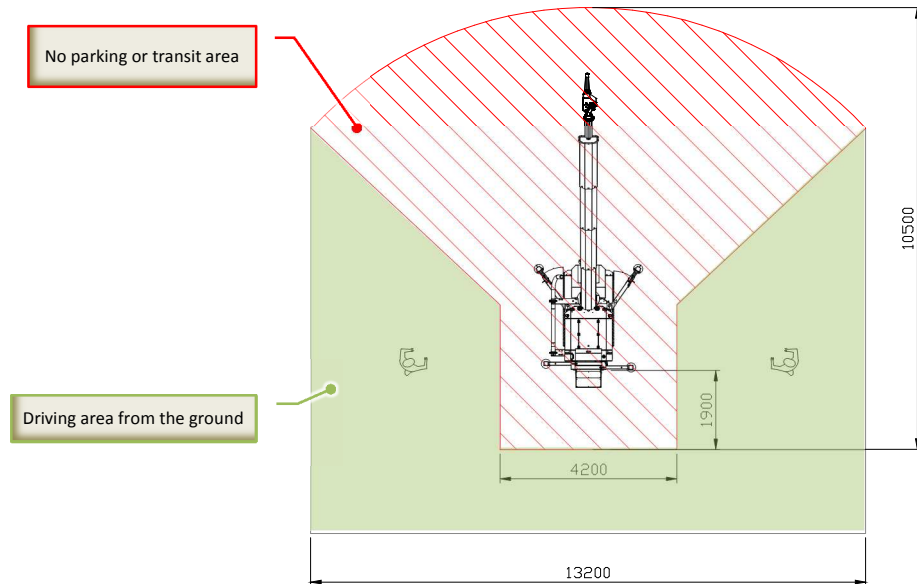

Fig. 7.4-2 - Driving station from the ground with remote control (plan view)
ATTENTION! When spraying concrete, any operator must be away from the danger zone of the spraying nozzle (red area in Fig. 7.4-2).
- **Always position yourself so that you can observe all movements of the machine and the surrounding space, always standing in the ground driving area and without ever entering the danger zone of the machine (Fig. 7.4-2).**